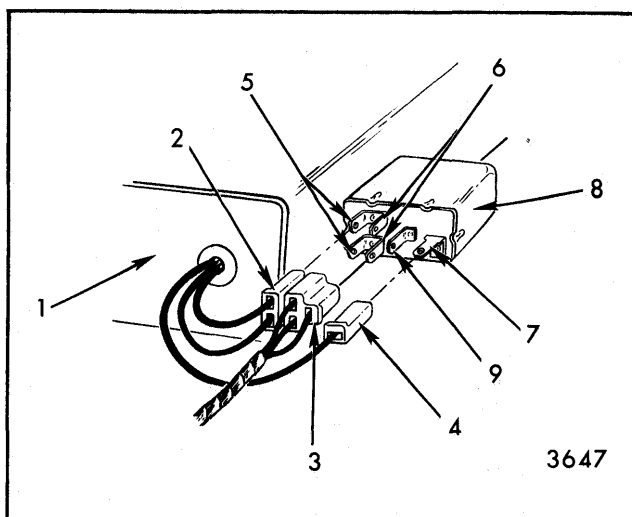

Fig. 10-15-Seat Adjuster Motor Control Relay
1. Disengage triple connector body from seat motor relay terminal (Fig. 10-15).
1. Disconnect three motor leads (double and single connector) from relay assembly. These are wires leading from the motor to relay (Fig. 10-15).